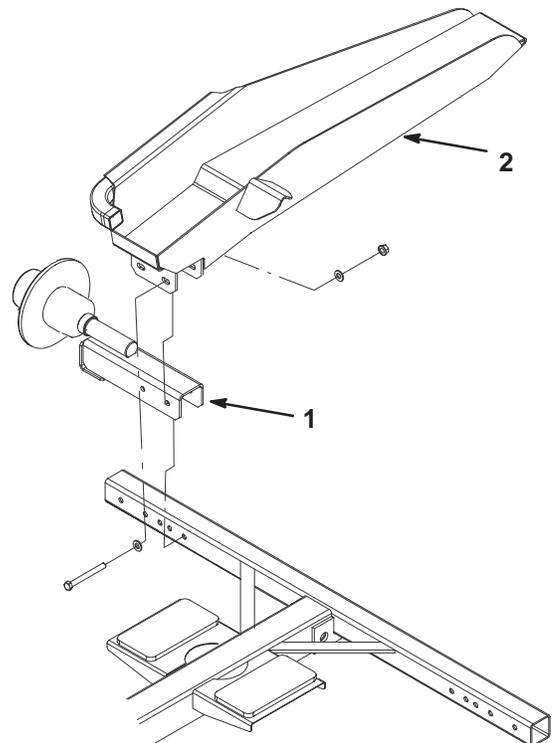

Figure 3
2. Mount axle assembly and a ramp assembly (Fig. 3) or rail assembly (Fig.) to each end of frame with (2) 3/8-16 x 3-1/2" lg. bolts, (4) washers and (2) nuts.